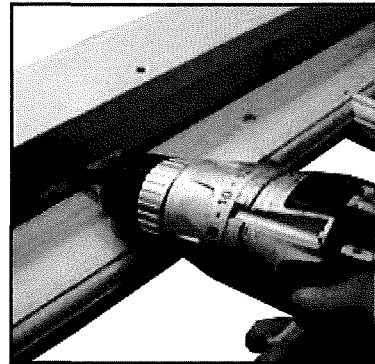

Fig 15
- 8 Make a visual judgement to set an even gap top/bottom of the doors and secure each hinge with 1x25mm screws (fig 15). Ensure the hinges are tight against the face of the doorframe.